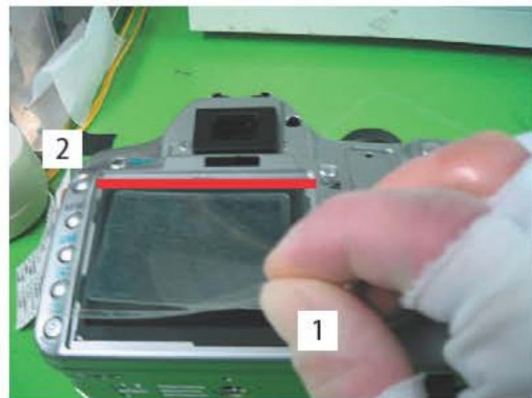

Fig. 050
- (2) Peel off the backing sheet of the double-sided tape for the TFT display window and apply the tape according to the red line as shown in Fig. 050.
- (3) Hold the edge of the double-sided tape for the TFT display window and remove the covering sheet.